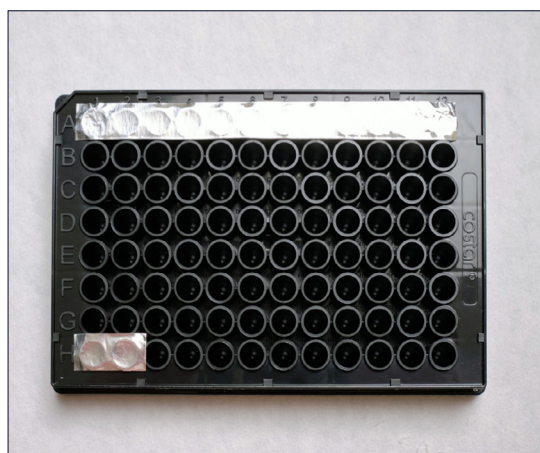

FIGURE 5.3. Filled and sealed 96-well plate.
- d. Cover the entire plate and do not move or tear the foil once it has adhered to the plate. (See Figure 5.3.)